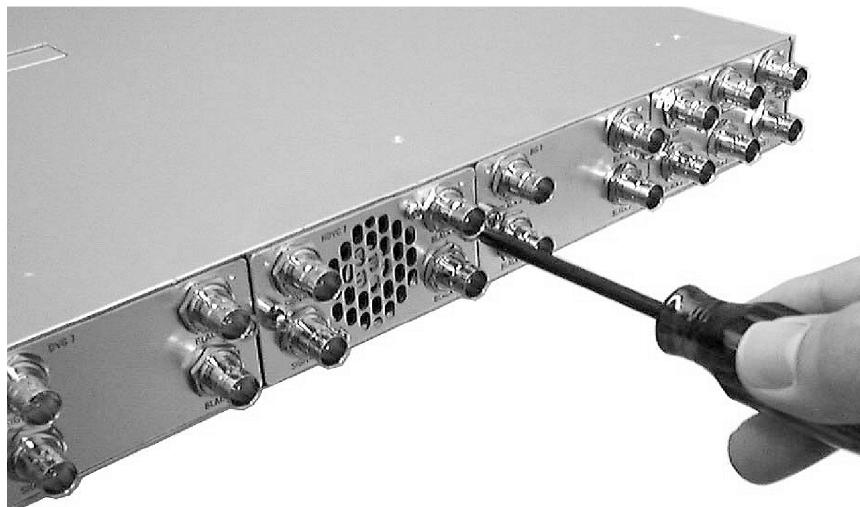

Figure 7: Securing the module (TG700 shown)
5. Tighten the two screws to secure the module to the mainframe. (See Figure 7.)